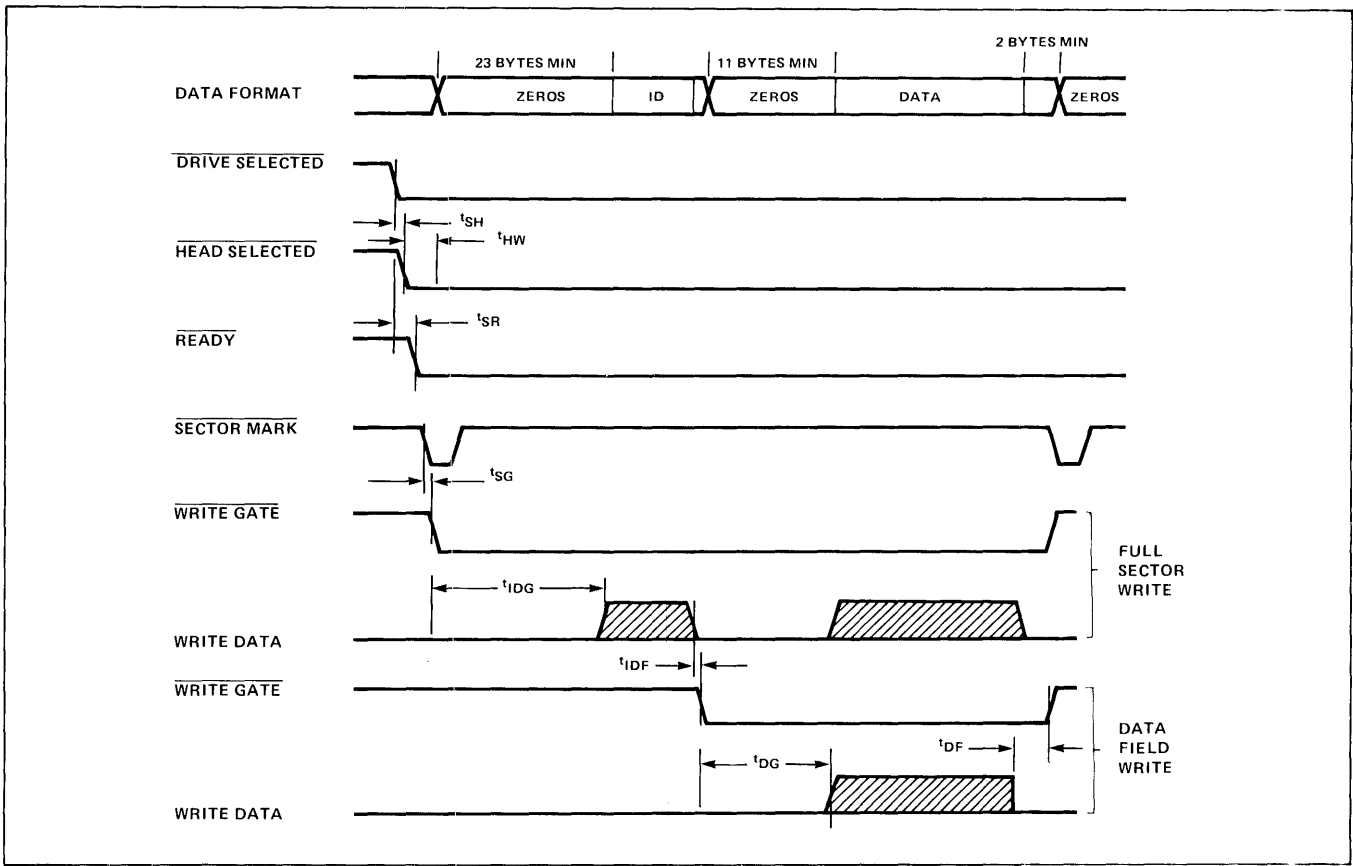

Figure 4-21. Record Writing Timing
7. *Record Writing* Figure 4-21 shows the timing requirement for writing full sectors (ID and data fields) and also writing data field only. The AC characteristics are listed in Table 4-26.